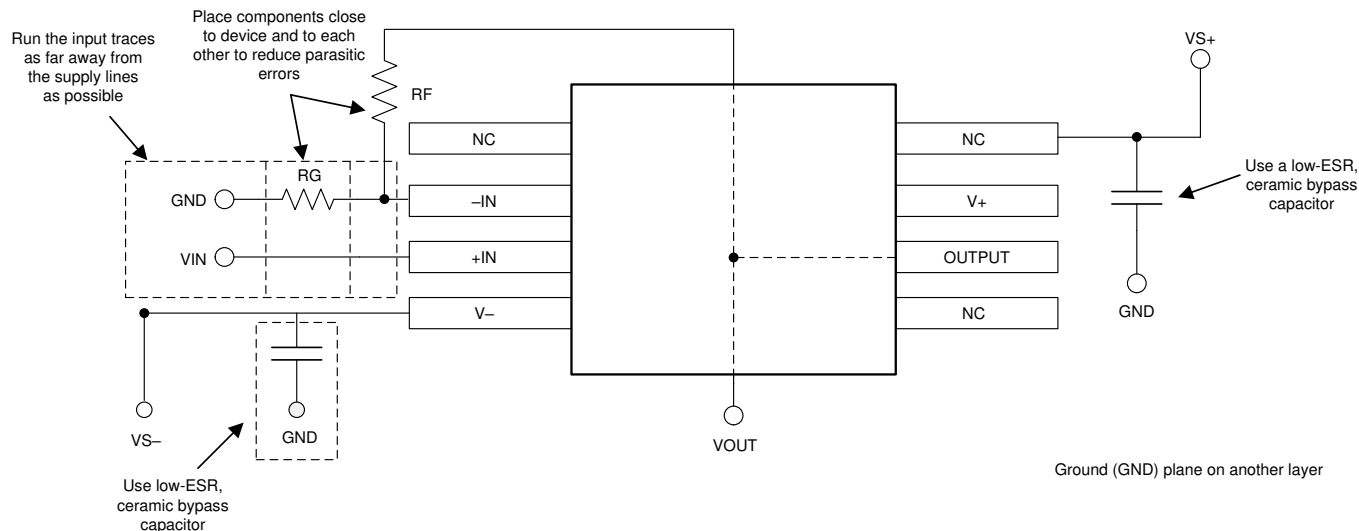

**Figure 62. Operational Amplifier Board Layout for Noninverting Configuration**
- Place the external components as close to the device as possible. As illustrated in Figure 62, keeping  $R_F$  and  $R_G$  close to the inverting input minimizes parasitic capacitance.